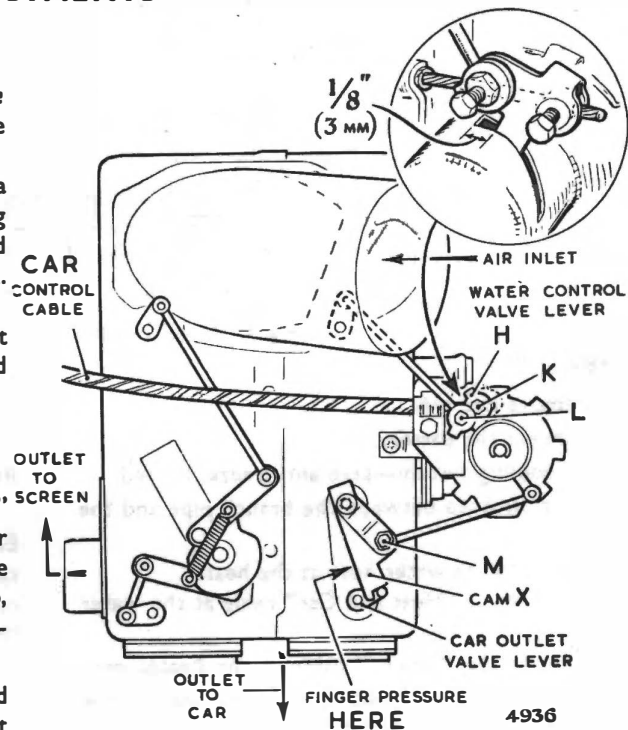

Fig. 6. Car control, water valve, air mixing valve and air outlet valve adjustment details
These valves are controlled by interconnected rods, cams and levers actuated by the dashboard "Car" and "Screen" controls which are connected by means of flexible cables to the water control valve lever (H) and the flap-valve (J) Figs. 6 and 7 respectively.
### 1. "CAR" Control (See Fig. 6)
$\frac{1}{8}$ " is (3.2 mm.) from the end of its slot (as shown in Fig. 6).